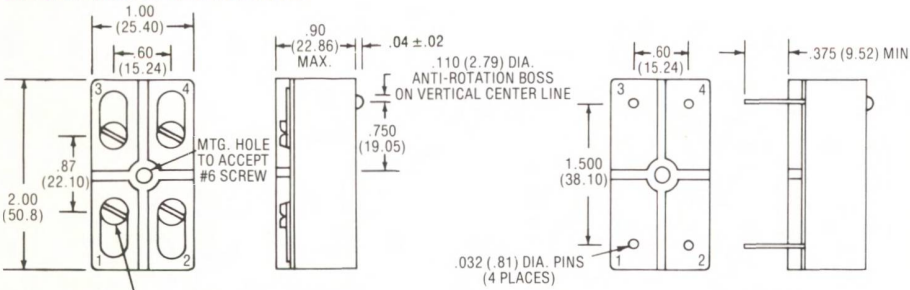

FIGURE 8
1. Basic part number provides for screw terminals only (Fig. 8). For PC Board pins add suffix "P" to part number (Fig. 9) for quick disconnect terminals, add suffix "Q" (Fig. 10). Example: 603-2P.